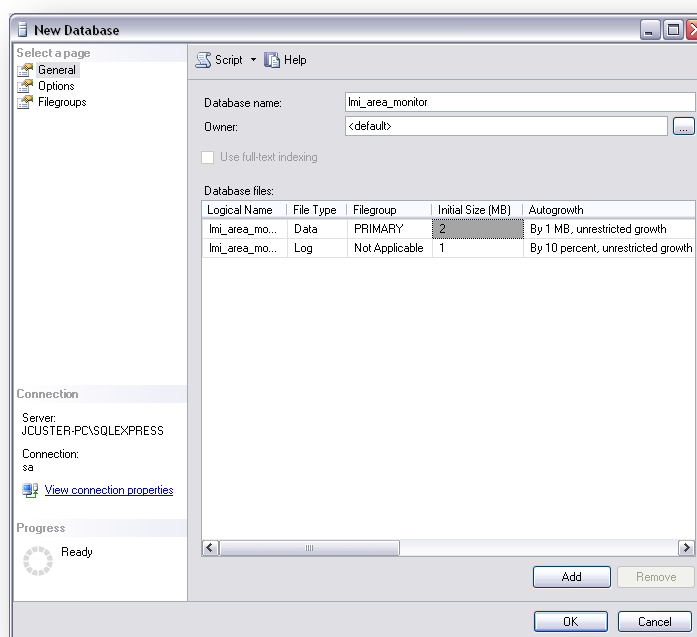

Figure 63 – Create New Database
12. After the installation is complete, click the Close button and then close the SQL Server Installation Center. See Figure 63.